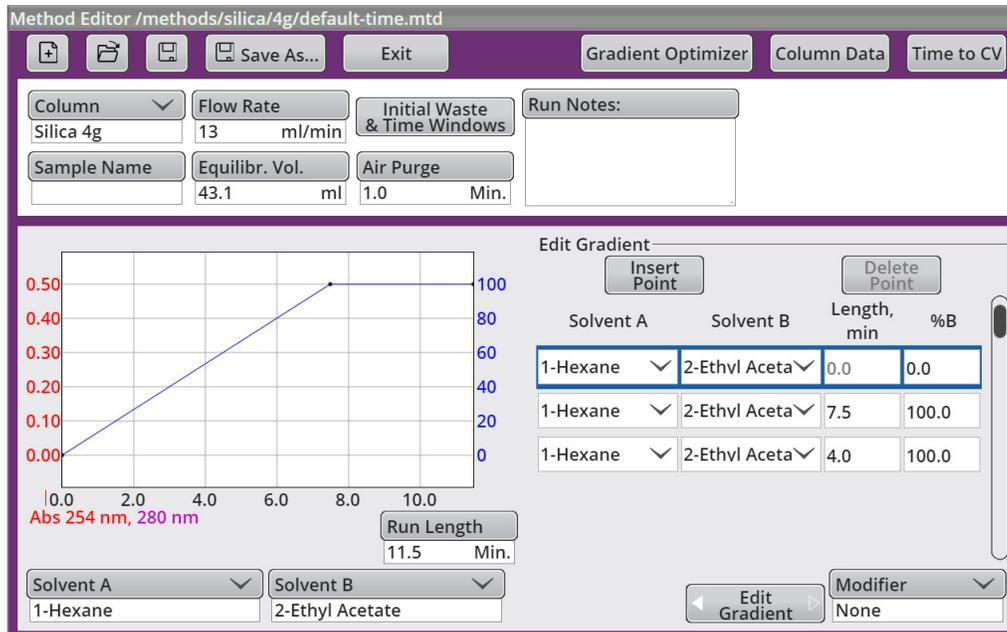

Figure 3-5 Edit Gradient screen
- Allows you to more precisely define a gradient than possible with a finger drag, by displaying the gradient in a tabular format (Figure 3-5).
- Set a constant percentage of a third solvent as modifier in this screen (in the lower right corner of the screen; Figure 3-5).